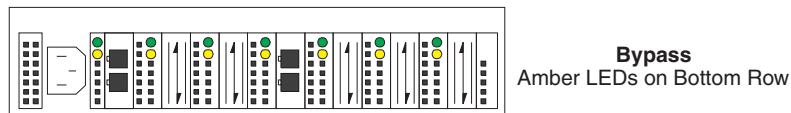

Figure 7. Type 3523 fibre-channel hub port bypass LEDs
4. Check the Port Bypass (amber) LEDs. See Figure 7.